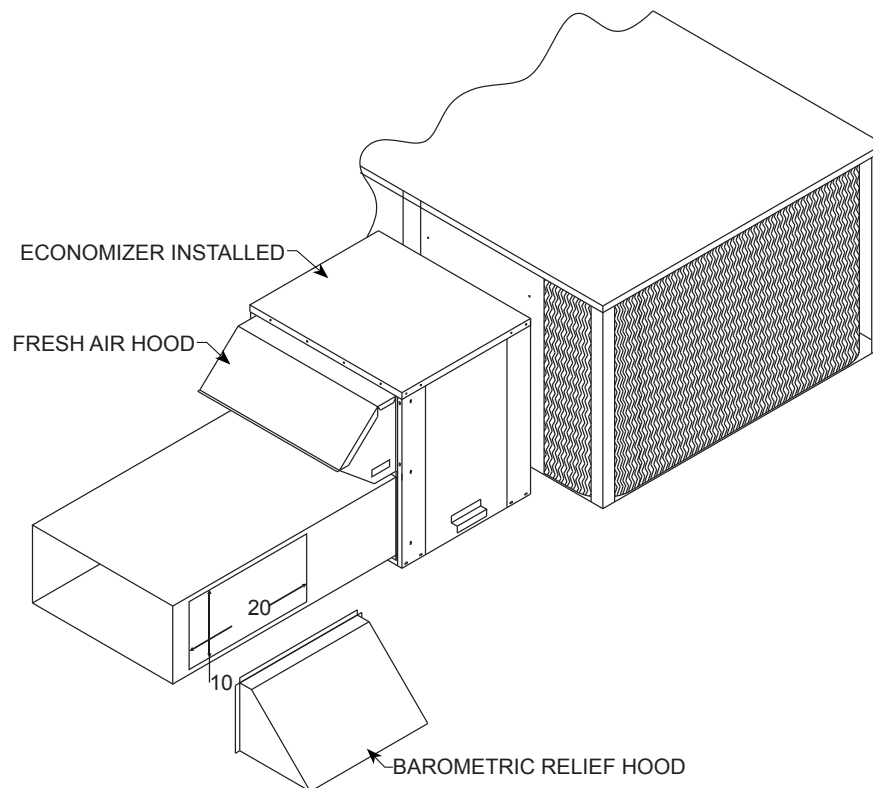

Figure 7
4. Remove barometric relief hood and fresh air hood of the economizer or if installing along with economizer omit this step. **See Figure 7.**